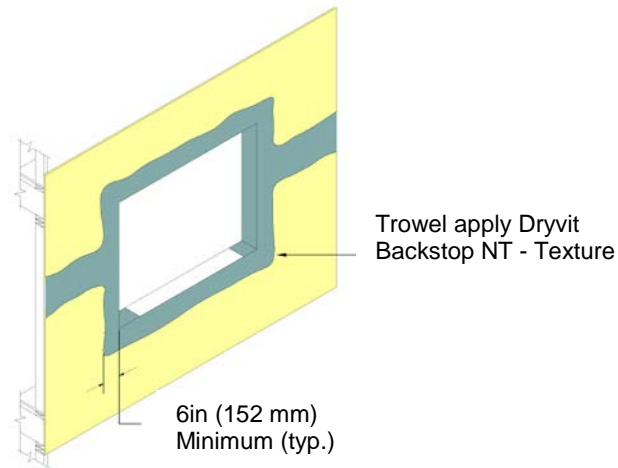

Figure 10
- Using a stainless steel trowel apply Backstop NT – Texture over the Grid Tape extending to the inside face of the opening and onto the face of the exterior sheathing a minimum of 6 in (152 mm) – Figure 10.